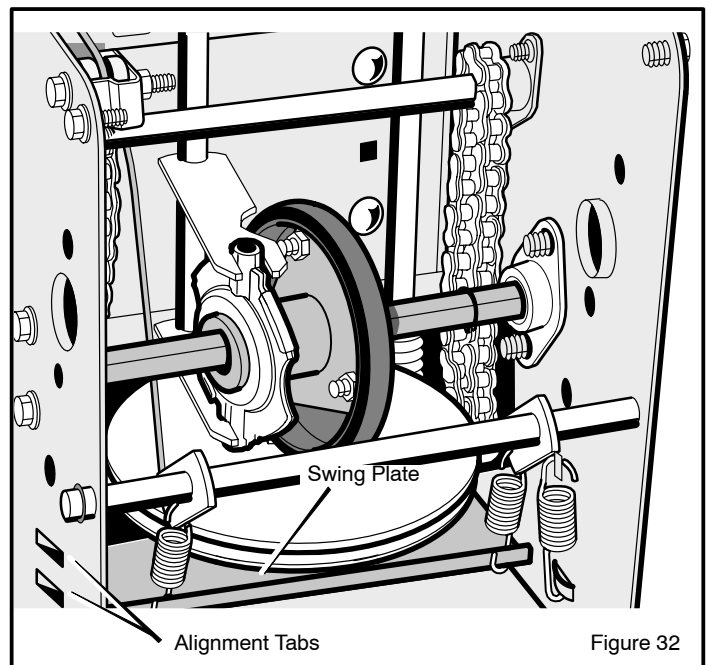

Figure 32
10. The bottom of the **swing plate** must be positioned between the **alignment tabs**. Make sure the **swing plate** is properly secured (see Figure 32).